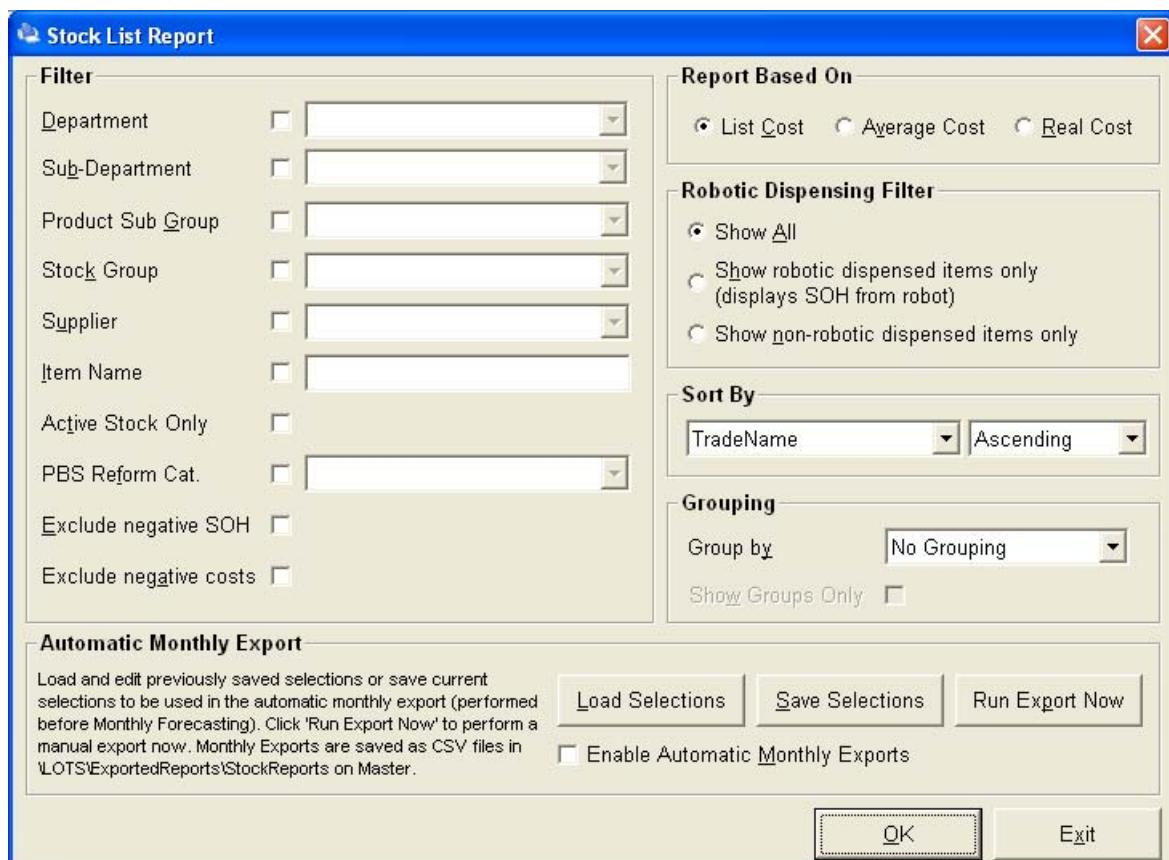

Figure 339
2. The 'Stock List Report' screen will be displayed (as shown in Figure 339).